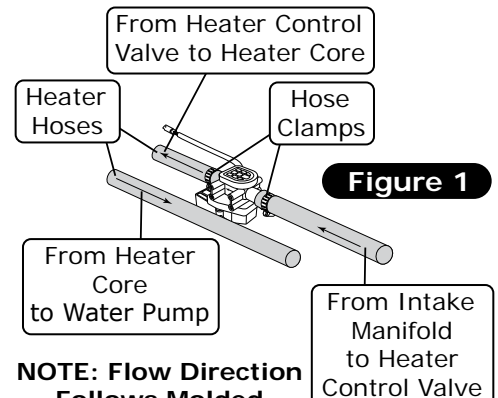

Figure 1
1. Cut the upper heater hose approximately 4 to 5 inches from the fresh air cap (See Photo 1, below). Install the heater control valve (See Photo 2, below). **NOTE: Ensure proper flow direction through the heater control valve. The flow direction follows the molded arrow on the valve (See Figure 1, below).**